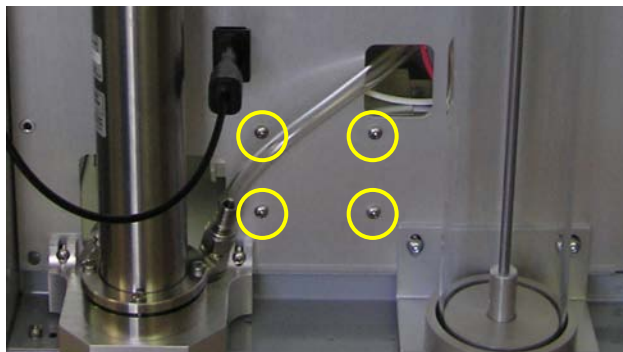

Figure 6-11
5. Access the instrument from the right side and locate four screws retaining the electrometer located next to the DMA (see Figure 6-11).